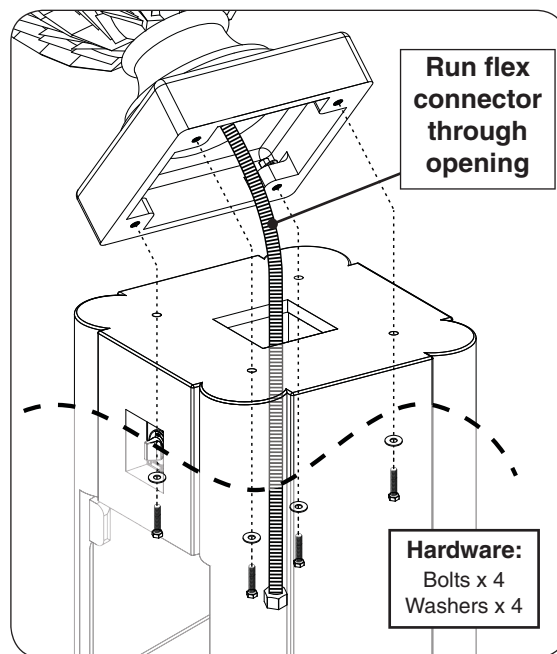

Fig. 16-1 Place urn and secure
1. Carefully place the urn assembly on the pedestal base, ensuring that the flex connector (coming from the inside of the urn) clears the center opening and the four screw holes (found underneath the urn assembly) are aligned with the four holes found on top of the pedestal base (see Fig. 16-1).
2. Insert the hardware kits in the order shown in Fig. 16-1. Hand tighten, then use a  $\frac{9}{16}$ " open end wrench (or equivalent) to fasten.